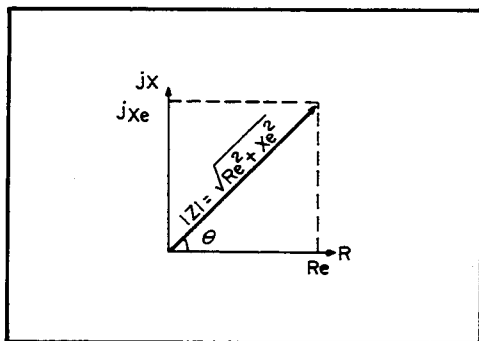

Figure 3-28. Impedance Vector Representation
3-88. The impedance of a component can be expressed in vector representation by a complex number as shown in Figure 3-28. In such representation, the effective resistance and effective reactance correspond to the projections of the impedance vector  $|Z| < \theta$ , that is, the real (R) axis and the imaginary (jX) axis, respectively.